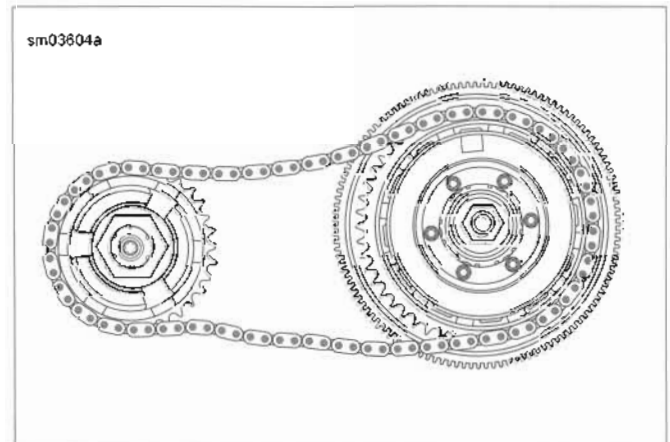

Figure 5-10. Remove Drive Components
13. See Figure 5-10. Remove clutch assembly, primary chain and compensating sprocket as a single assembly.